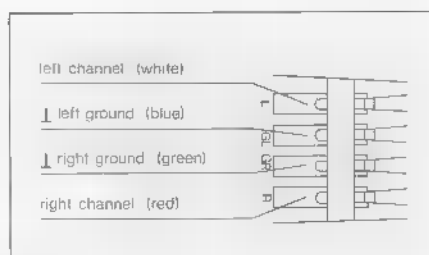

Fig. 16
- Connect each lead on the cartridge holder to its corresponding pin on the cartridge. Each lead is color-coded as shown in fig. 16.